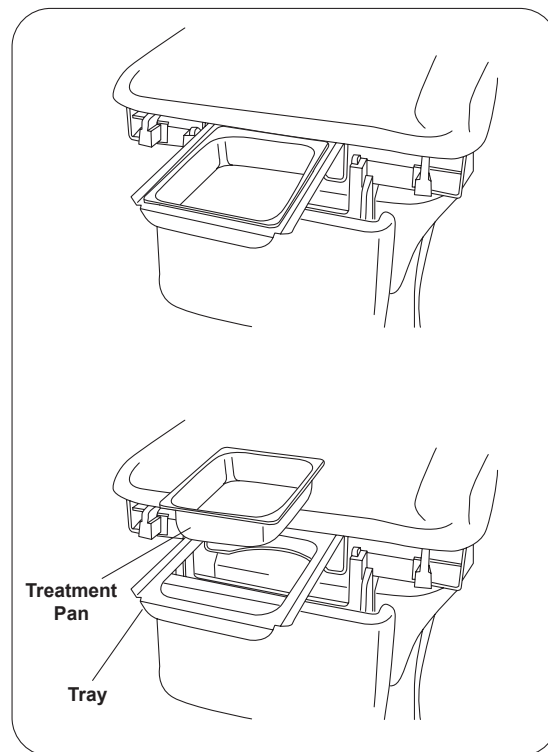

Figure 9. Treatment Pan
1. To expose the treatment pan for use, grasp the tray handle and pull until tray is fully extended (Figure 9).